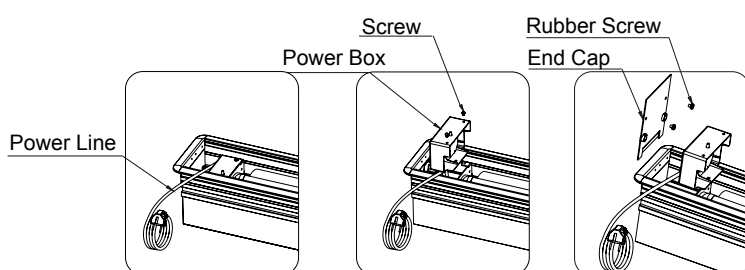

Figure 6
- Remove the power cord (figure 6).